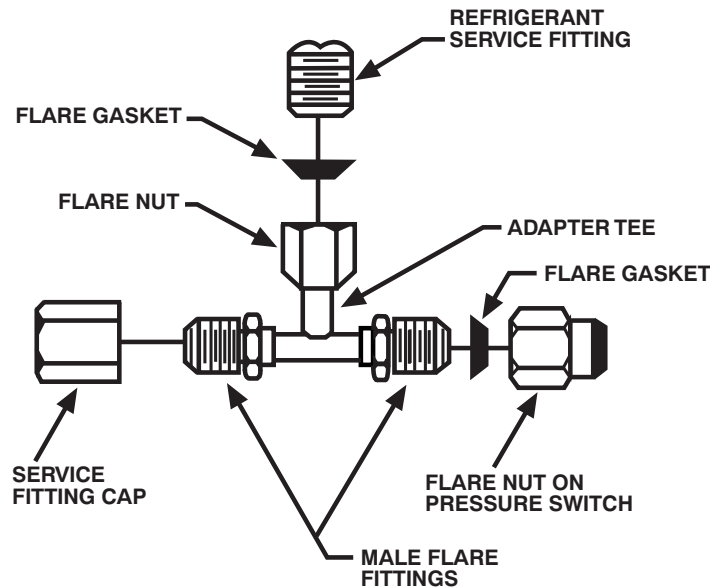

Fig. 1 - Low-Pressure Switch Refrigerant Connections
1. Securely connect pressure switch flare nut (on pressure switch assembly) to either male flare fitting on adapter tee provided in kit. Be sure to use a flare gasket (provided in the kit). (See Fig. 1.)